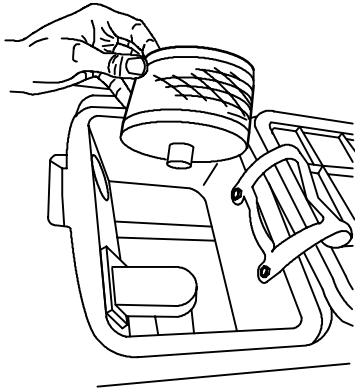

FIG. 47
5. If equipped with ES option, remove ES filter from recovery tank and clean (Figure 47).